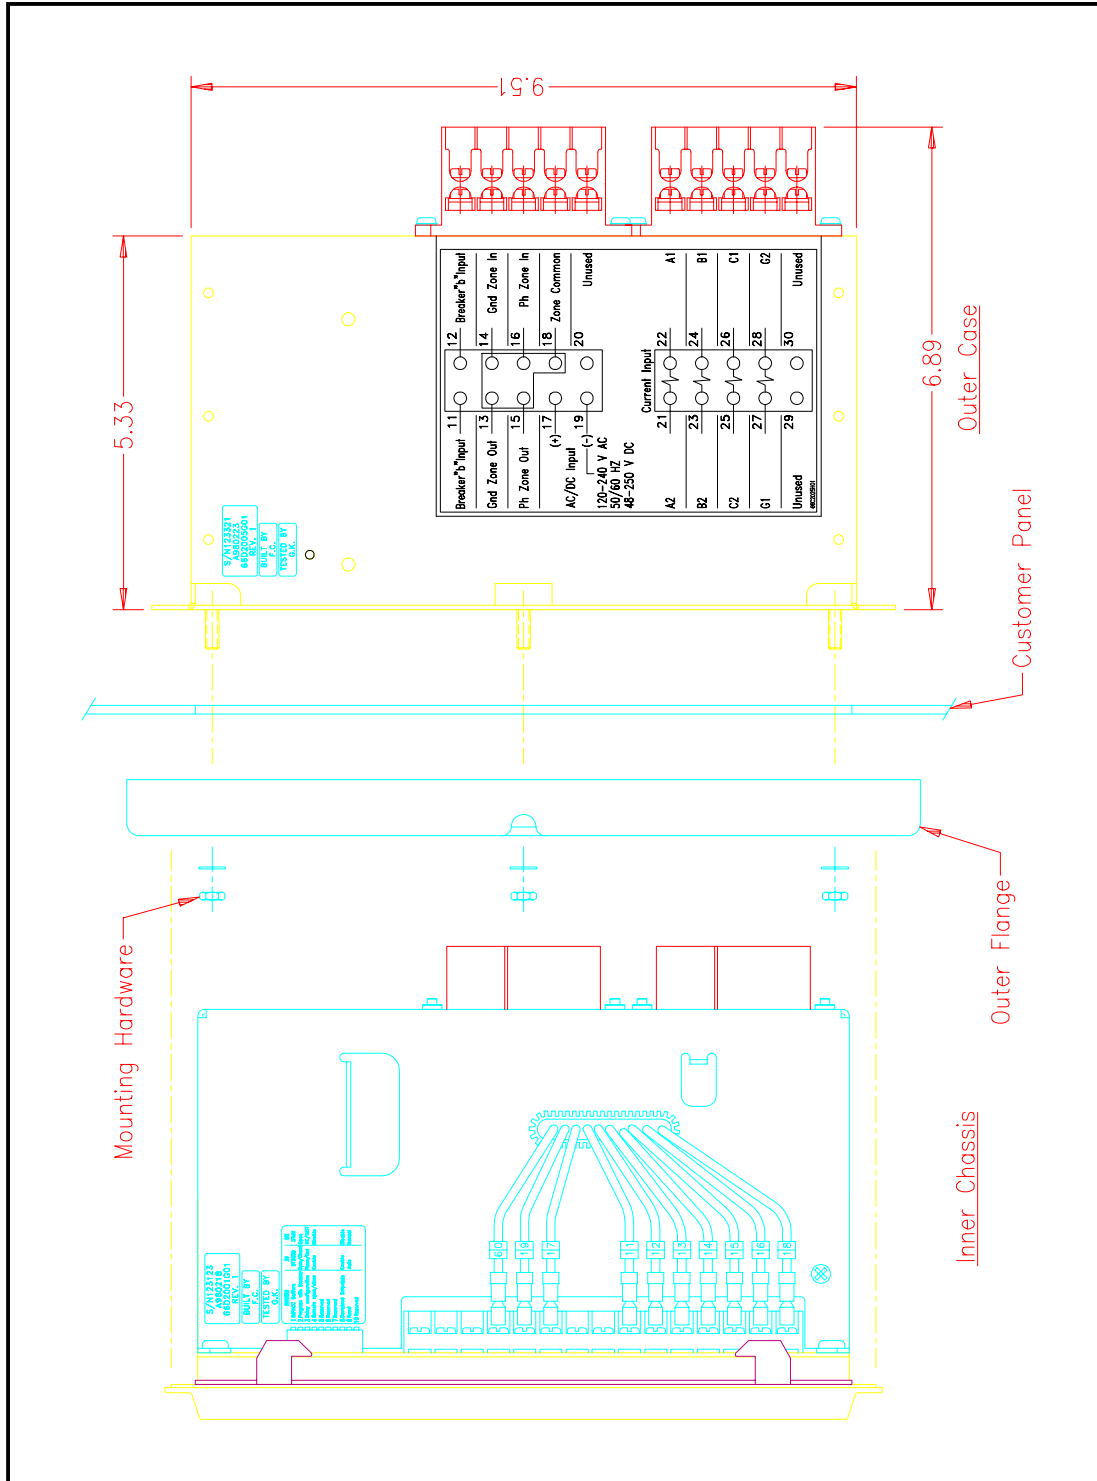

FIGURE 3. DT3001 PANEL MOUNTING
- 3.3.2 Place the outer case flush against the backside of the panel so that the case studs project through their respective holes. Refer to Figure 3 for diagram.